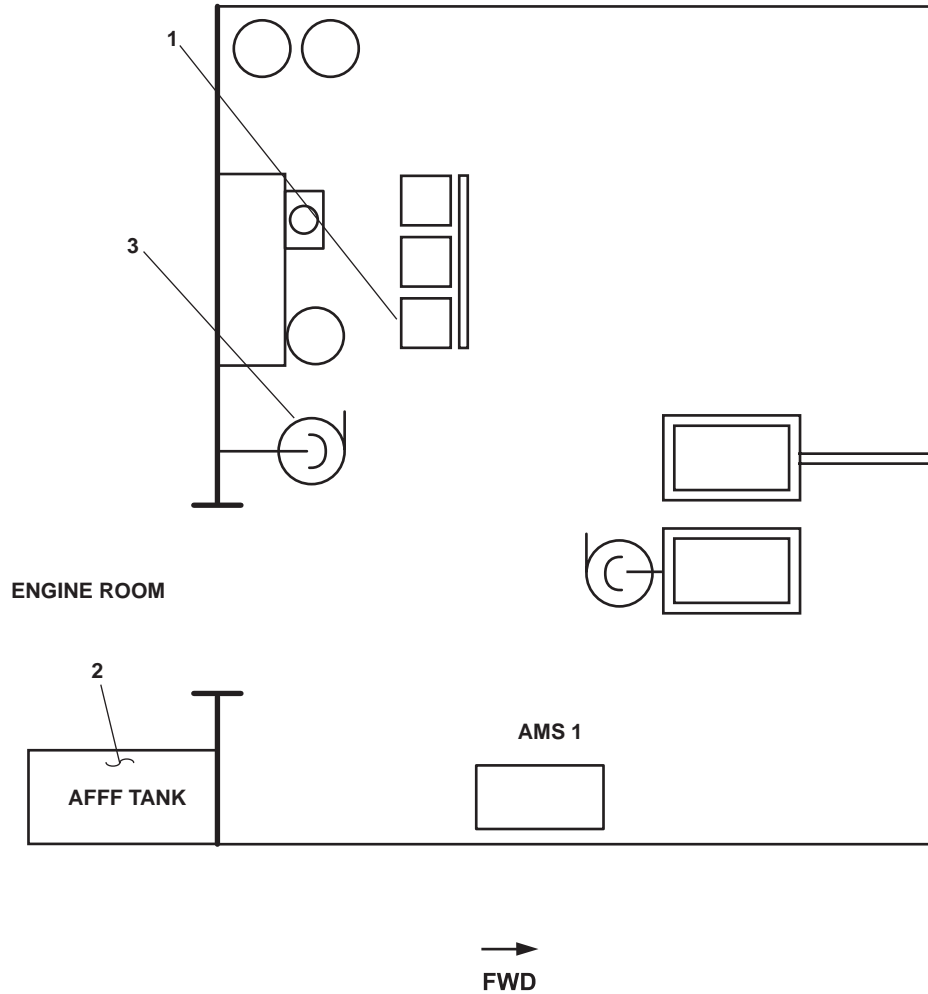

Figure 8. AFFF Pump Component Locations
1. AFFF Motor Controller (figure 8, item 1). This motor controller controls the power to the AFFF pump.
2. AFFF Tank (figure 8, item 2). This tank stores the AFFF. The tank will hold 525 gallons (1,987 liters).
3. AFFF Pump (figure 8, item 3). This pump sends AFFF to the fire monitors.